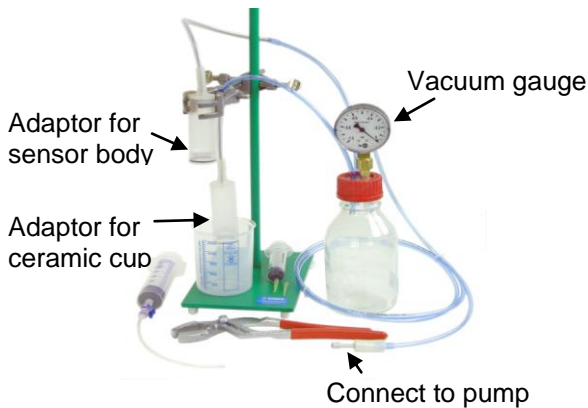

Fig. 4.1: Laboratory refill kit SWT4-RK2
- 1) Set up the refilling kit and connect the vacuum pump as shown in fig. 4.1. The pump should achieve at least 0,8 kPa against vacuum. Use distilled or de-ionized water which does not necessarily have to be degassed when a pump is used.